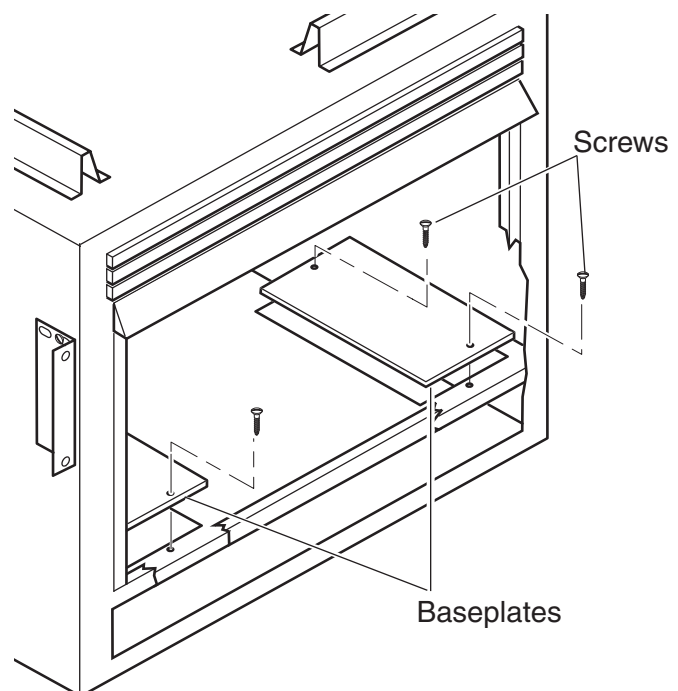

Figure 21 - Removing Baseplates
7. Remove two baseplates from bottom of firebox. See *Figure 21*.